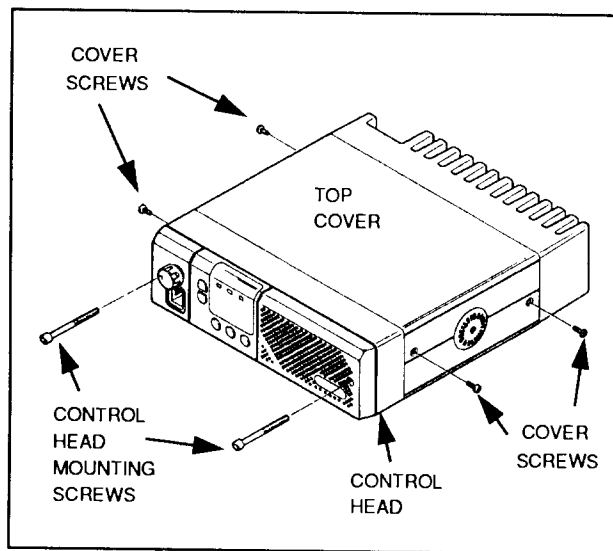

Figure 1.
- (1) Remove control head mounting screws (figure 1). Pull control head off and away from the radio. Carefully remove control head connectors from chassis.
- (2) Remove the two chassis cover screws from each side (figure 1). Remove top and bottom covers from chassis.